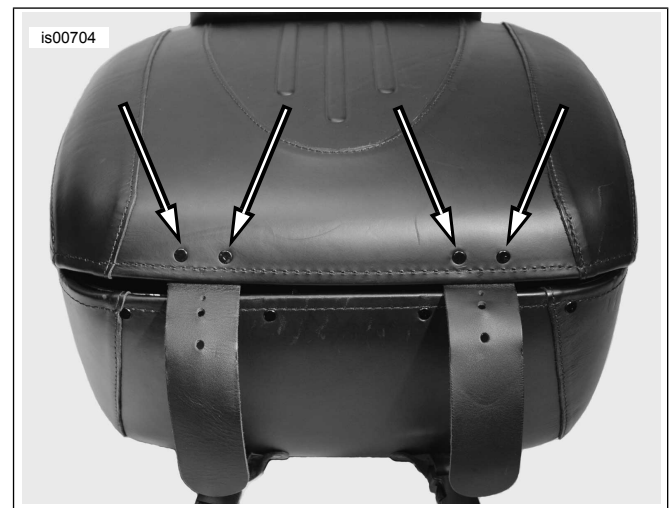

Figure 1. Location of Original Equipment Rivets
2. See Figure 1. Using a 3/16 in. (4.8 mm) diameter drill bit, carefully drill out the four rivets that hold the leather straps to the Tour-Pak lid. Then open up holes with a 7/32 in. (5.6 mm) diameter drill. *Kit 53057-07 Only:* There are no straps to remove in this kit. Open up Tour-Pak and locate the four holes on the inside of the lid. Carefully pierce through the leather from the inside using an awl or #8 nail in the center of the four hole locations. After piercing the leather, carefully drill through the pierced holes using a 3/16 in. (4.8 mm) drill from the outside of the Tour-Pak.